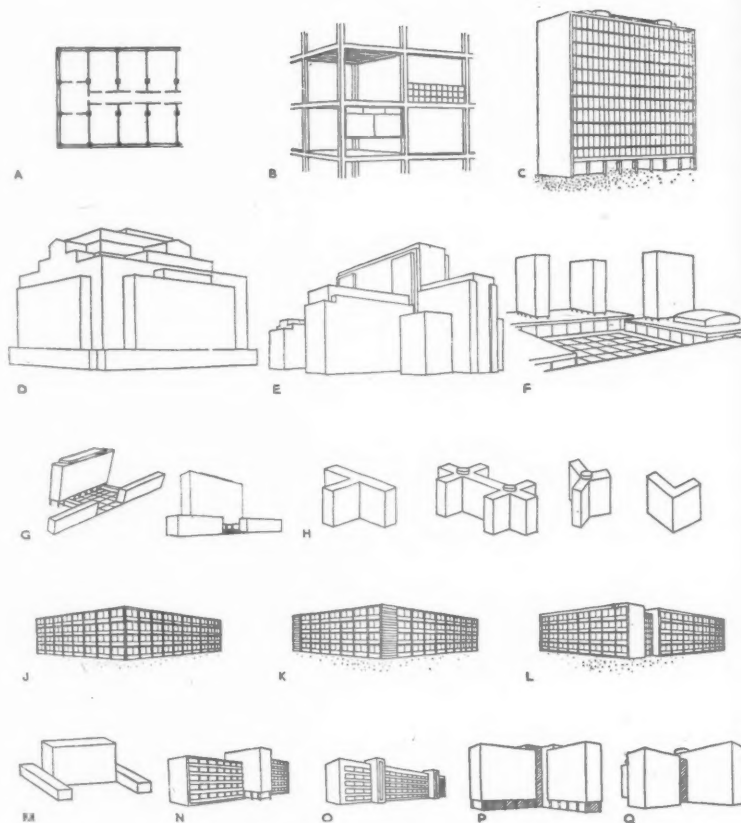

Figure 3.
floor space can be sub-divided by partitions into rooms of standard depth but varying width. The heights of the rooms and windows are identical on all floors. The depth is seldom more than 24 ft. as at this dimension the light at the rear of the room is generally poor. The width of the building is restricted by the natural lighting and cannot be more than the depth of two offices plus the central corridor Fig. 3 (A).
The external elements (shown in Fig. 3, B) are: the floor slab; the window, which stretches from column to column so that the lighting is as even as possible; a panel under the windows to hide the legs of the typists (this panel is also sometimes used as a mounting for radiators, and is required in London as a fire barrier); and finally the structural frame holding these elements in space. The resultant building is a tall, wide, but narrow structure, like a book on edge. The long façades will be a geometric grid of windows and panels, and the end façades (since no light is needed through them) will be a blank wall Fig. 3 (C).
The old form—an expression of mass—is shown in Fig. 3 (D). The composition builds up from a broad base by a series of set backs into a pyramidal form. It is an expression neither of a constant office depth nor of a steel frame—imagine building the corners in steel. This building up into an appearance
We cannot afford the Renaissance box of tricks these days, although I must confess I have seen some surprising things at the Royal Fine Art Commission. But the desire to produce a pyramidal mass-like form is still an obsession with many architects. Fig. 3 (E) shows one of the typical forms this produces; although wings project out to get light into the offices, the total effect is still of a solid carved block—a sculpturesque rather than a spatial approach to design.
Now most office buildings require some large, deep meeting rooms, which may be placed on the ground floor in horizontal form, in contrast to the vertical office accommodation. Apart from the splendid opportunities this assembly gives for architectural composition it is of great significance in town design, as it enables two types of spatial composition to be achieved: the building standing in space, as a plastic composition; and the enclosed urban space, formed by grouping buildings together—a piazza or "space body" as opposed to the plastic body of a building. Fig. 3 (F) illustrates the principle: the main office blocks stand in space as towers or slabs, but the lower floors are brought forward and related to each other to form enclosing walls to a civic square.
When the site is developed in depth it may be possible to assemble the accommodation as a series of slabs as in Fig. 3 (G) (based on a technical college I am building). However, many buildings will need to be developed with wings, such as the L, the Y, and the cruciform plan types Fig. 3, (H).
The danger with these assemblies is that unless the office-like character of the wings is preserved they may easily indicate a deep or a massive building. For example, if the building is of an L shape and the façade pattern is carried straight round the external angle as in Fig. 3 (J), the effect is often of a building with great depth. It is like looking at the corner of a box. But if the individual wings are expressed, say, by making a blank wall for the depth of one wing as in Fig. 3 (K), or by keeping the wings apart as in Fig. 3 (L), then the way the building works is made quite clear.
It is surprising the varieties of abuse of form that take place with the junctions of the wings. I have seen one block just placed across the end of another, as in Fig. 3 (M), giving the impression that it will slide away any moment; or one block charging into another, as in Fig. 3 (N); or, again, a long façade broken by violent vertical features, as in Fig. 3 (O).
It is nearly always necessary to introduce a negative form between the wings to prevent the façade patterns coming into conflict. There are all kinds of solutions; Figs. 3 (P) and (Q) are obvious.